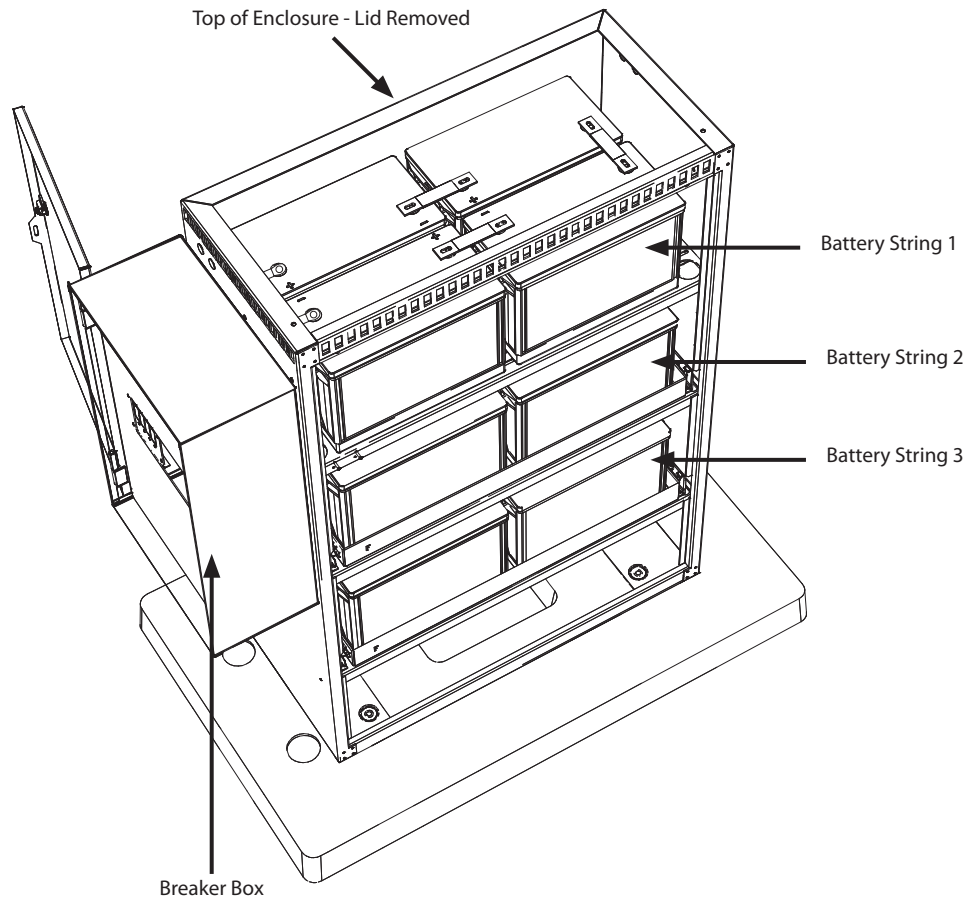

Figure 9, Battery Positioning and Wiring/ Shunt Connections
4. Position the batteries as shown in Figures 9 and 10.